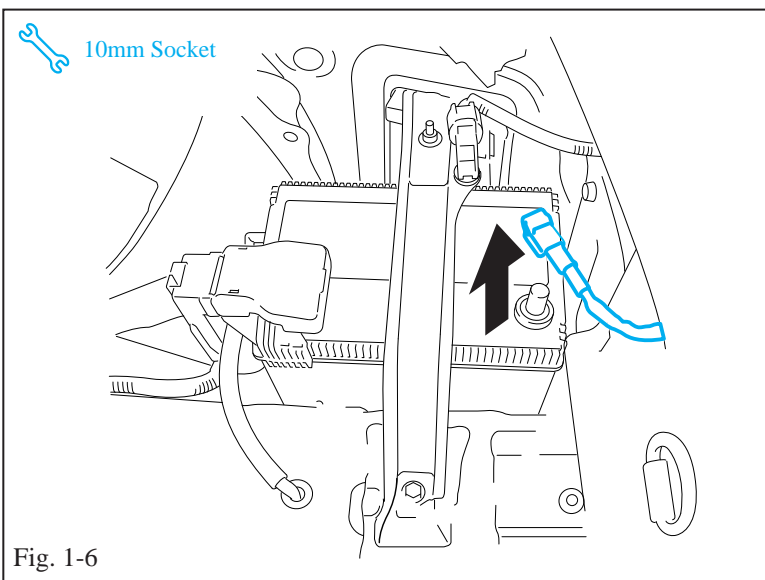

Fig. 1-6
- (g) Disconnect the battery negative cable using a 10mm socket. (Fig. 1-6)